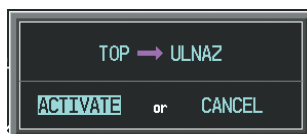

Figure 5-119 Confirm Active Leg
- c) Select the **ACT LEG** Softkey. The confirmation window is now displayed as in Figure 5-119. Note the TOP to SLN leg is actually part of V4.